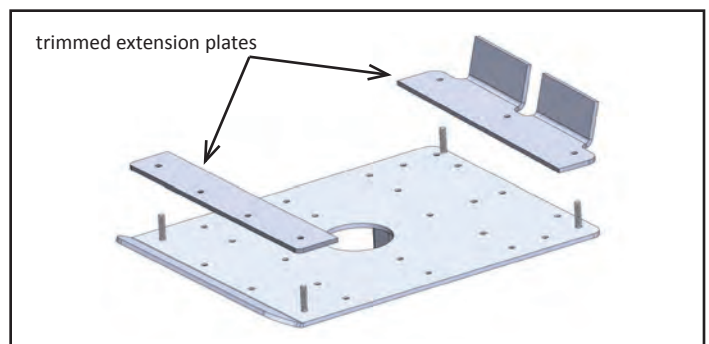

Figure 4
7. Trim the extension plates (see Figure 4) and re-attach them to the Universal Capture Plate.